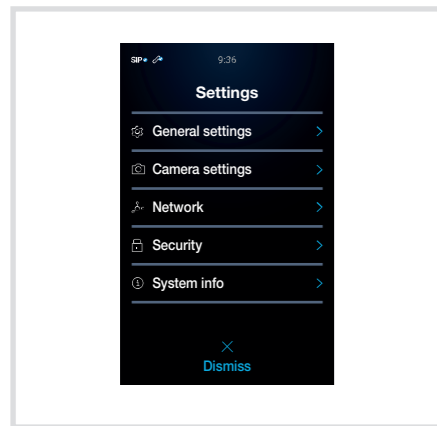

Fig. 33: Configuration card settings
The **settings** (Figure 33) appear on the touch display.
- Select the setting to be changed on the touch display (Figure 33) and follow the instructions on the display.